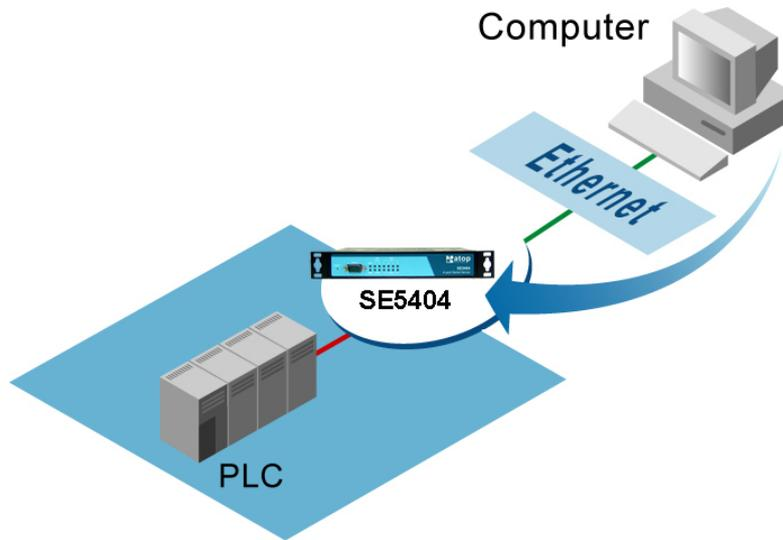

Figure 1.1 TCP Server Mode
**TCP Server Mode** : SE5404 can be configured in a TCP server mode on an Ethernet Network to wait for the host computer to establish a connection with the serial device ( the client). After the connection is established, data can flow in both directions (Figure 1.1).